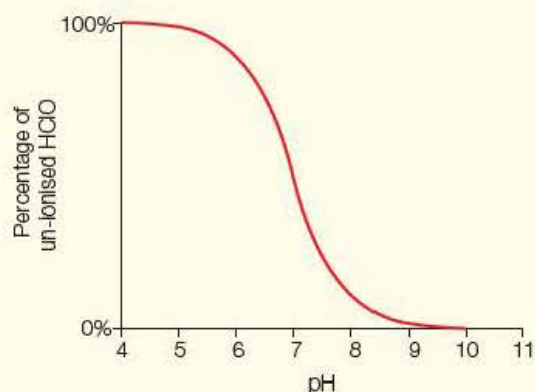

Figure 11.28 ▲ Graph to show how the concentration of chloric(I) acid, HClO , varies over a range of pH values at 20 °C
Chloric(I) acid is a weak acid so it does not ionise easily. The concentration of un-ionised HClO in a solution depends on the pH, as shown in Figure 11.28.